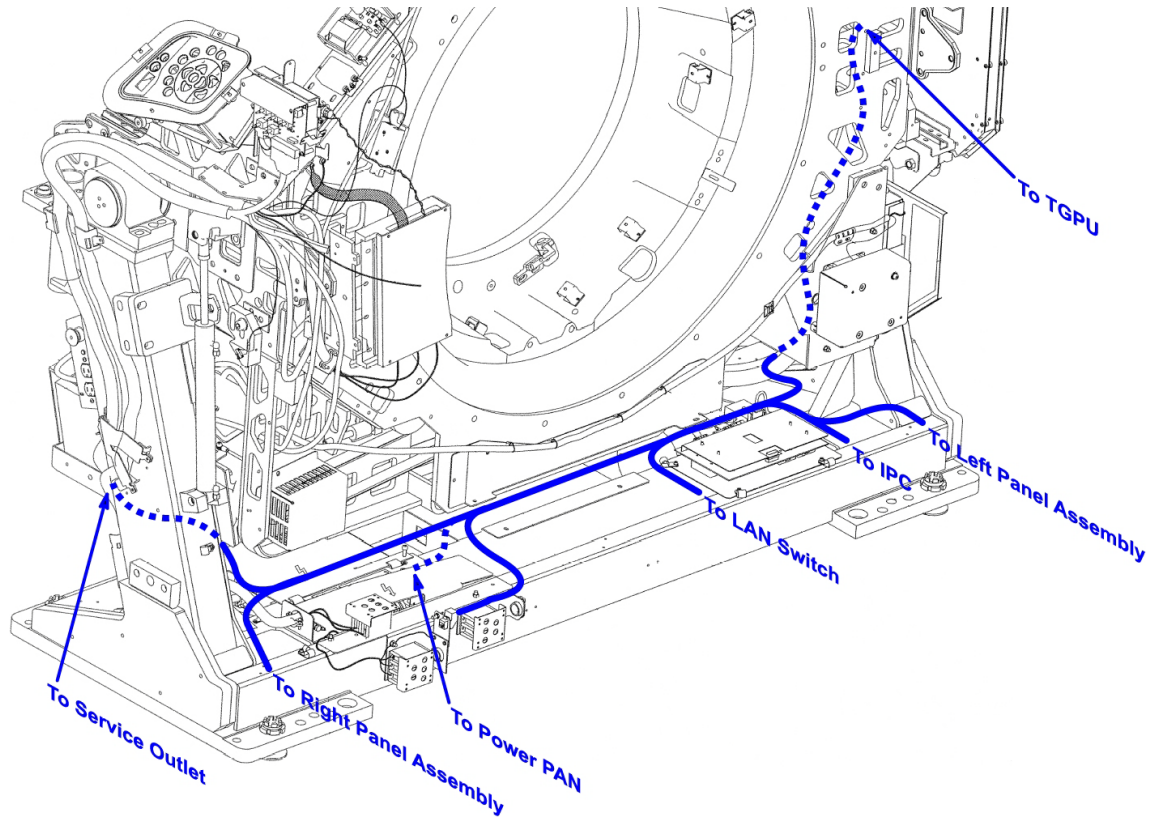
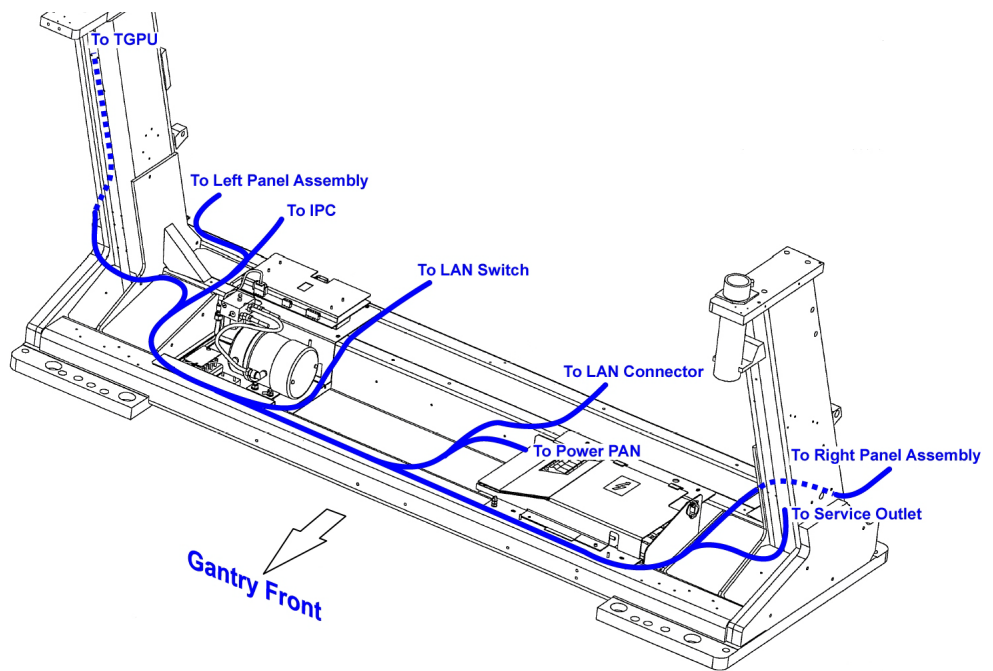

Figure 1-6 Cable Wiring
Figure 1-7 Cable Routing
- 1.) Carefully route the cable harness as shown in illustration Figure 1-6 and Figure 1-7.